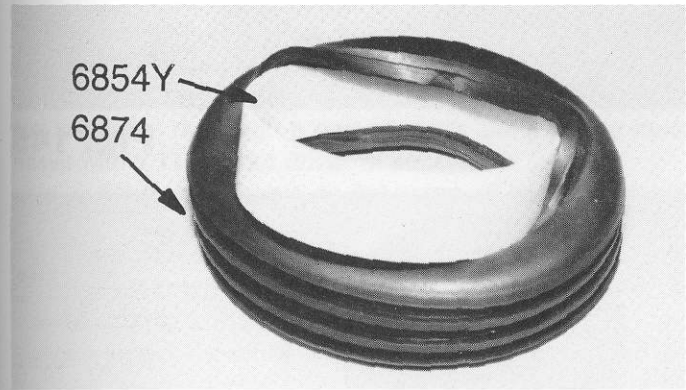

Fig. 139
□ **Fig. 139** In the kit box you will find the front tire and wheel bag which contains two Associated #6874 (Proline XTR #8015) flat four-ribbed front tires, the #6854Y yellow three piece front wheels, two small bags containing six #6860 4-40 x 3/8" aluminum SHCScrews and four #6906 3/8" x 3/16" unflanged front wheel bearings. **Note: The tires in your kit may be different from those in the photos, for we are constantly testing tires to find a new combination which will outperform what we were using before.**
We will start by installing the #6854Y plastic insert rings inside the two front tires as shown in fig. 139. Work the insert ring into the tire until it is evenly seated. **Note: Tire types vary. Some will go on quite easily, and some will be quite difficult to install. For these tough ones, soapy water (like dish washing soap) will help the rubber to slip easier and will make mounting the tires much simpler. Be sure to rinse off the soap and dry the tires thoroughly.**